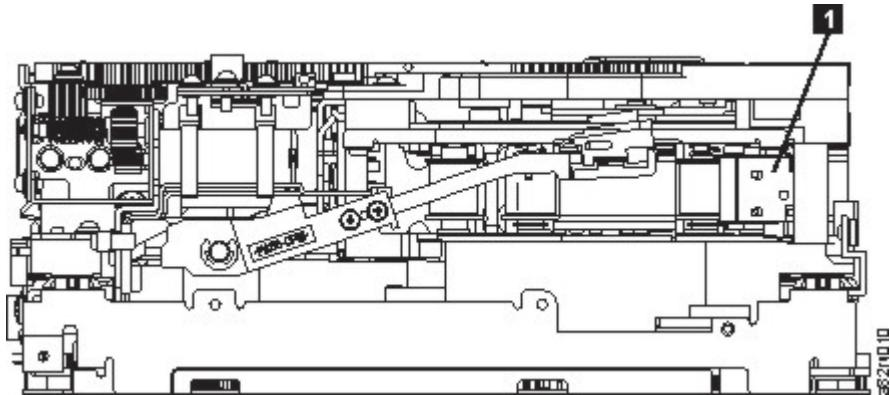

Figure 124. Leader Block Assembly (LBA)
10. Rotate the threader motor worm gear (4 in Figure 123 on page 258) to turn the threader mechanism gear (6 in Figure 123 on page 258) counterclockwise. This action moves the LBA out of the cartridge and past the read/write head. Stop this rotation when the LBA is near the tape guide roller nearest the rear of the drive that is shown as 1 Figure 124 on page 259.